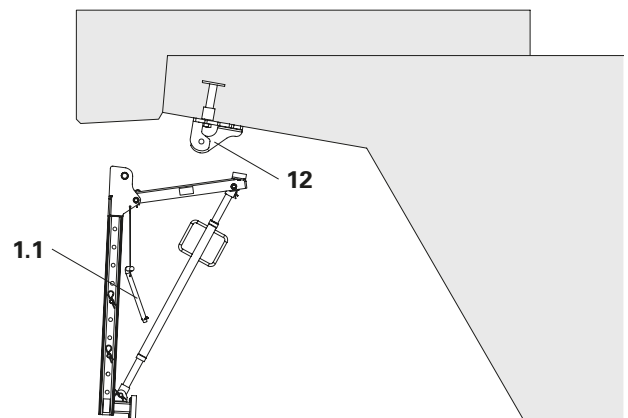
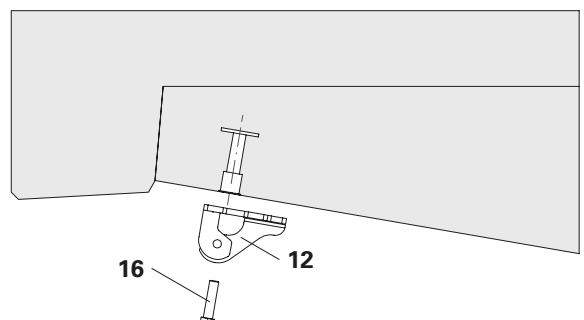

Fig. C3.03
Fig. C3.04
1. Remove locking pins Ø20x260 mm (1.1) from Suspension Head VGK (12) and remove the bracket unit. (Fig. C3.03)
3. Loosen Screw ISO 4014-M24x100-8.8-ga (16) and remove Suspension Head VGK (12).
4. Seal tie holes, for example with concrete plugs, see Section "A5 Anchoring" on page 39. (Fig. C3.04)